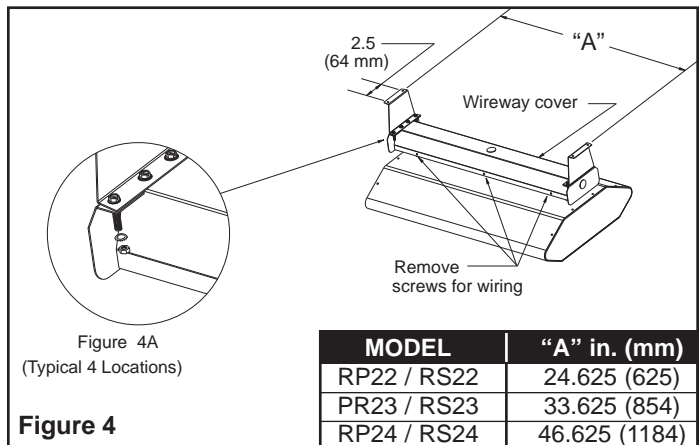

Figure 4A
1. On a workbench or other flat surface, attach mounting brackets to ends of wireway cover (see Figure 4A) using bolts, star washers, and nuts supplied.